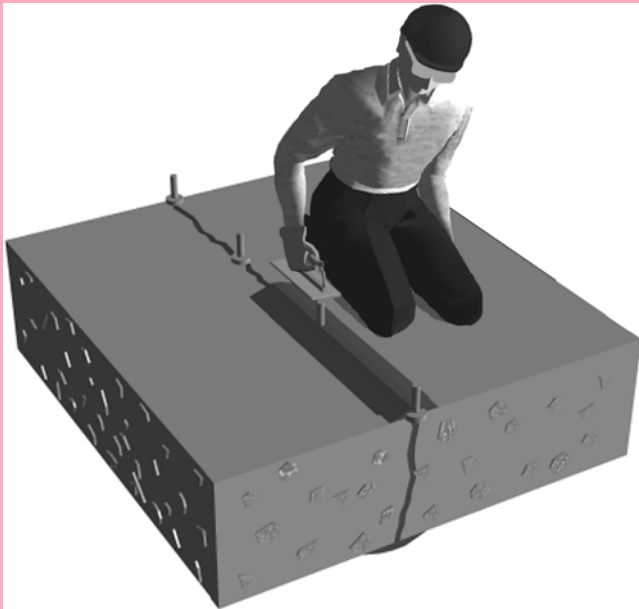

Fig. 3—Installation of seal cap.
2. Install the cap seal (see Fig. 3).